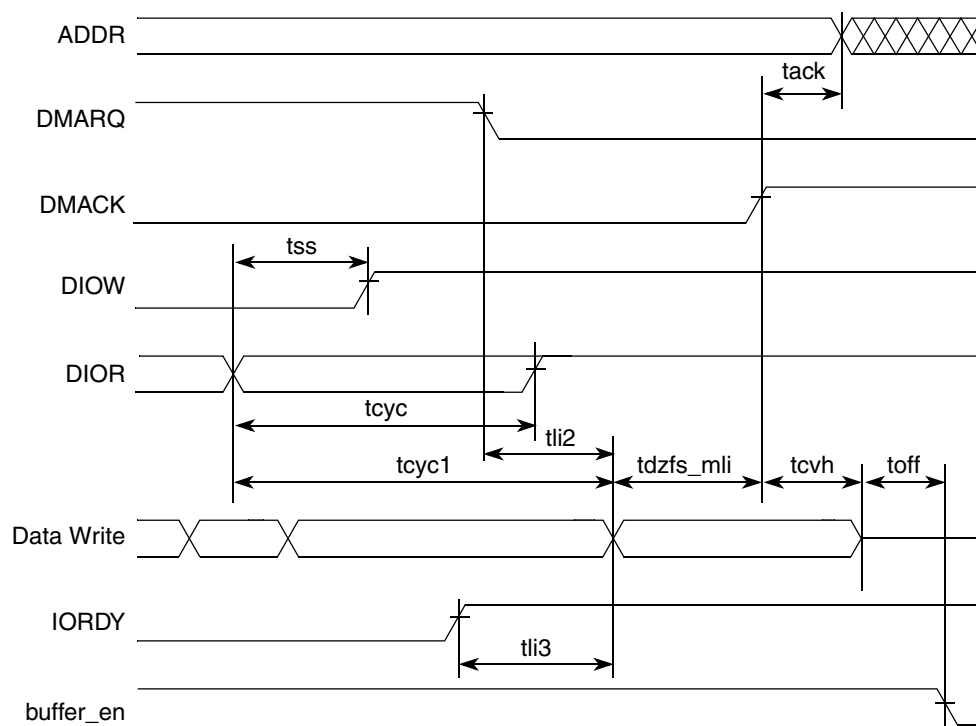

Figure 32. UDMA Out Host Terminates Transfer
- Figure 32 gives timing for host terminating UDMA out transfer